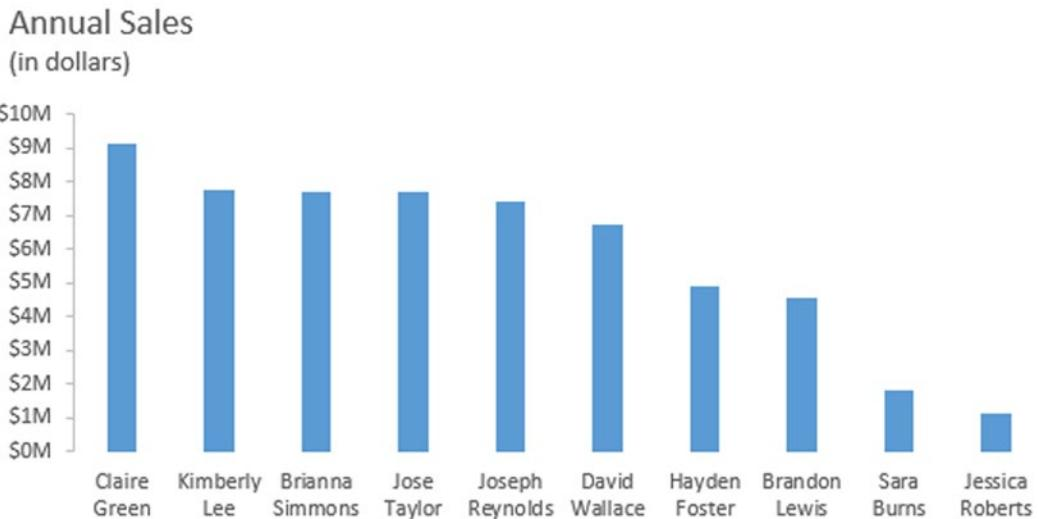
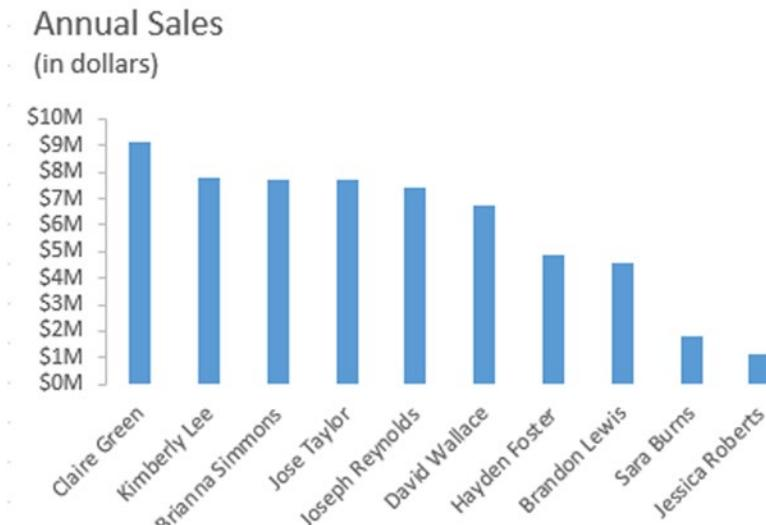

Figure 12-6. When sorted and with other unnecessary data elements removed, the chart becomes much easier to read
Figure 12-7. By default, chart labels will often be set at an angle by Excel
3. Finally, you can erase the lines that do not help you for comparison and change some of the layout. Figure 12-6 shows the final result.
Sometimes you don't have the space to show the labels cleanly as I've done in Figure 12-6. Excel will attempt to convince you there's nothing wrong with craning your neck by tilting the labels to uncomfortable angles (see Figures 12-7 and 12-8).